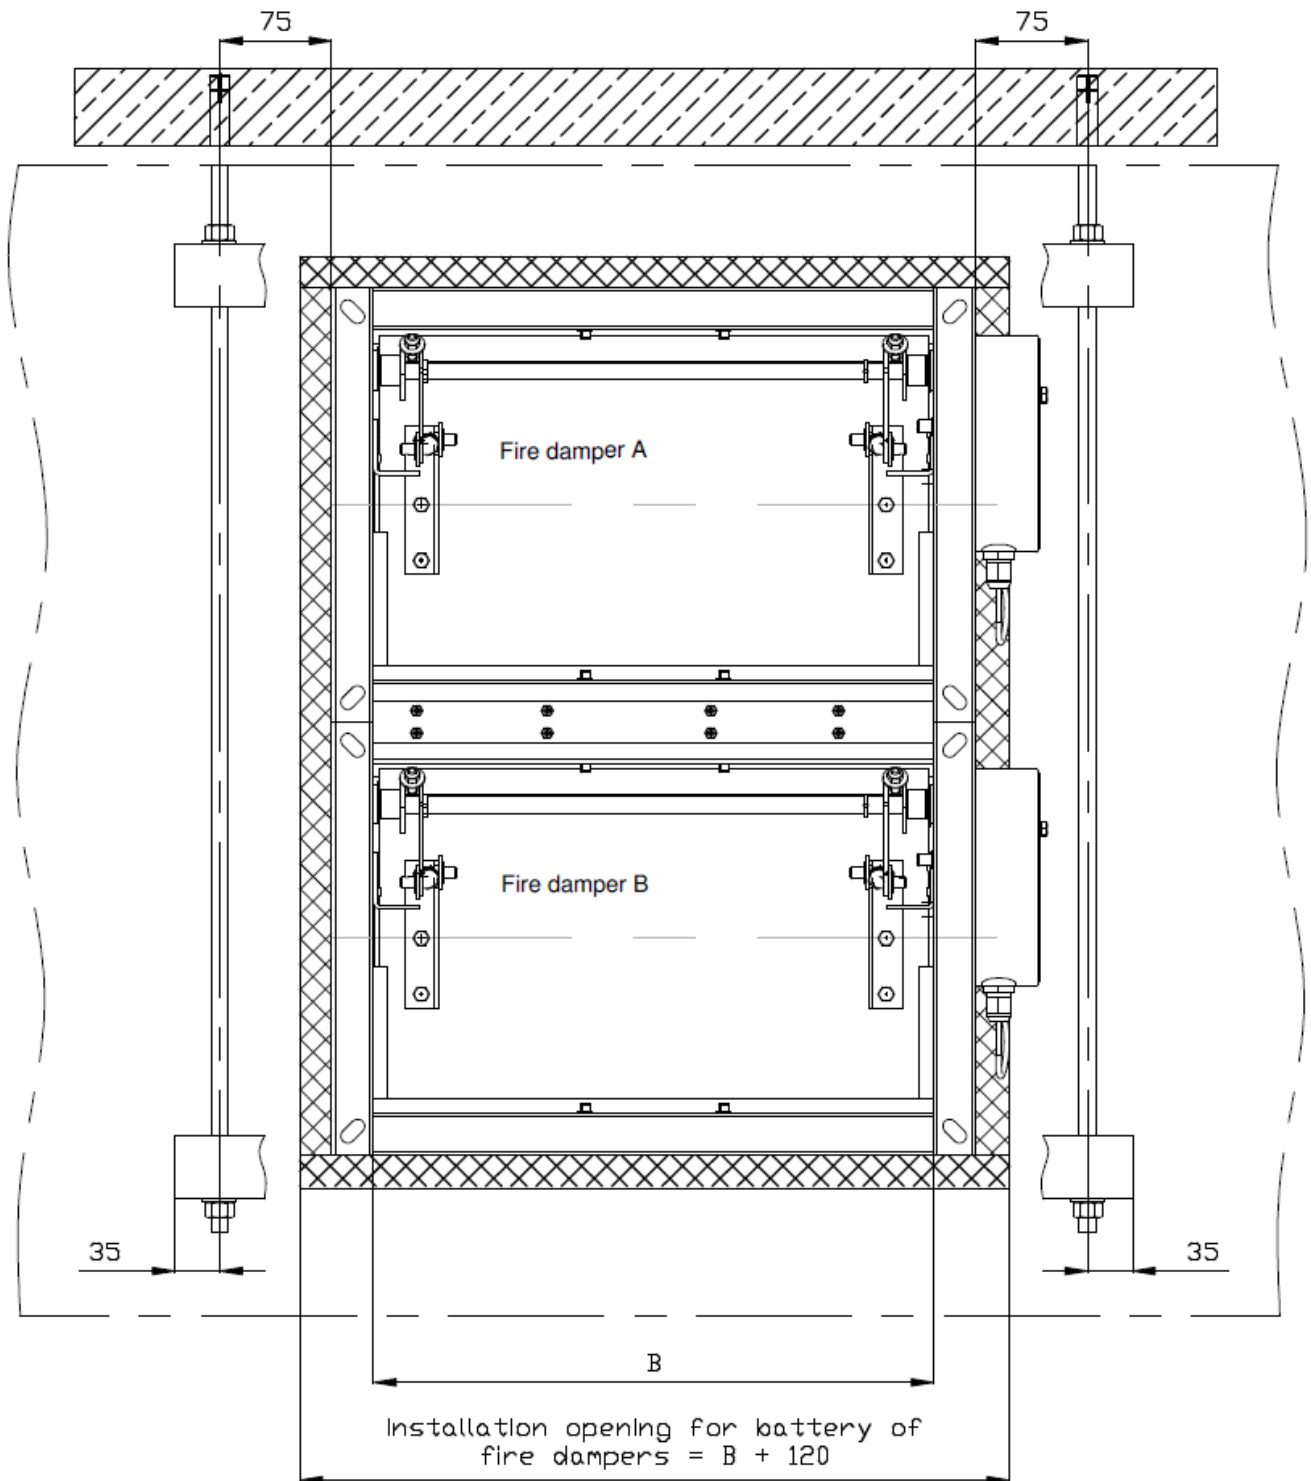

Figure 5.3. Installation of a battery consisting of two fire dampers KWP in vertical arrangement in rigid compartment - front view.
- for vertical battery consisting of two fire dampers:  $(B+120) \times (H1+H2+180)$ , (Figure 5.3)